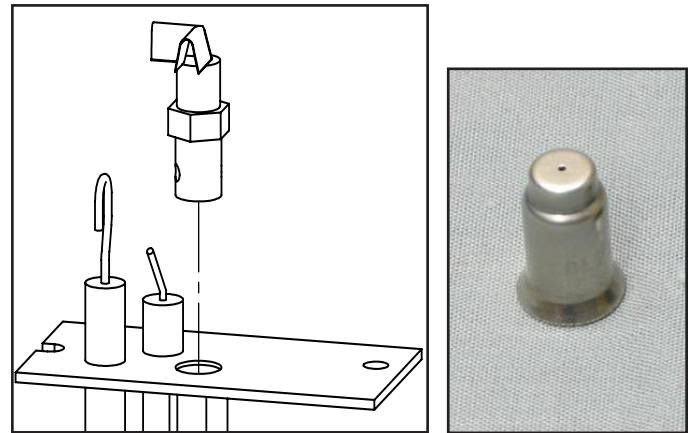

Figure 9. Pilot Conversion & Orifice
- Convert the existing pilot orifice with the one provided in this kit (see Figure 9) using a **7/16" wrench**. Fully unscrew and remove the pilot head and replace the orifice insert, bell end down. Re-install and tighten the pilot, if the head does not reach proper orientation in the snug position then contact your Enviro dealer.